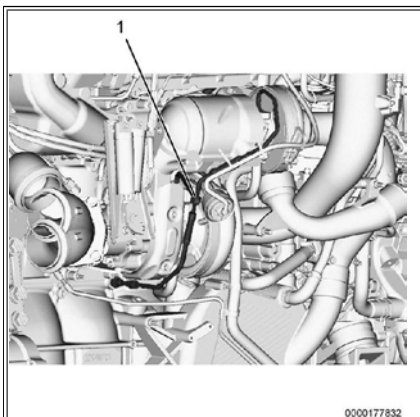

Figure 1: Old Style (Factory Installed) Turbocharger Oil Supply Tube.
9. Remove and discard turbocharger oil supply tube (Figure 1, Item 1).